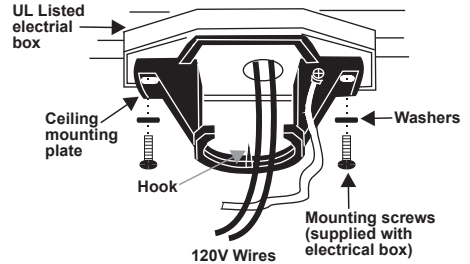

Fig.5
Step 1. Pass the 120-volt supply wires through the center hole in the ceiling hanger bracket as shown in Fig.5.
2. Pass the 120-volt supply wires through the center hole in the ceiling hanger bracket as shown in Fig. 5.
3. Secure the hanger bracket to the ceiling outlet box with the screws and washers provided with your outlet box. (Fig. 5)